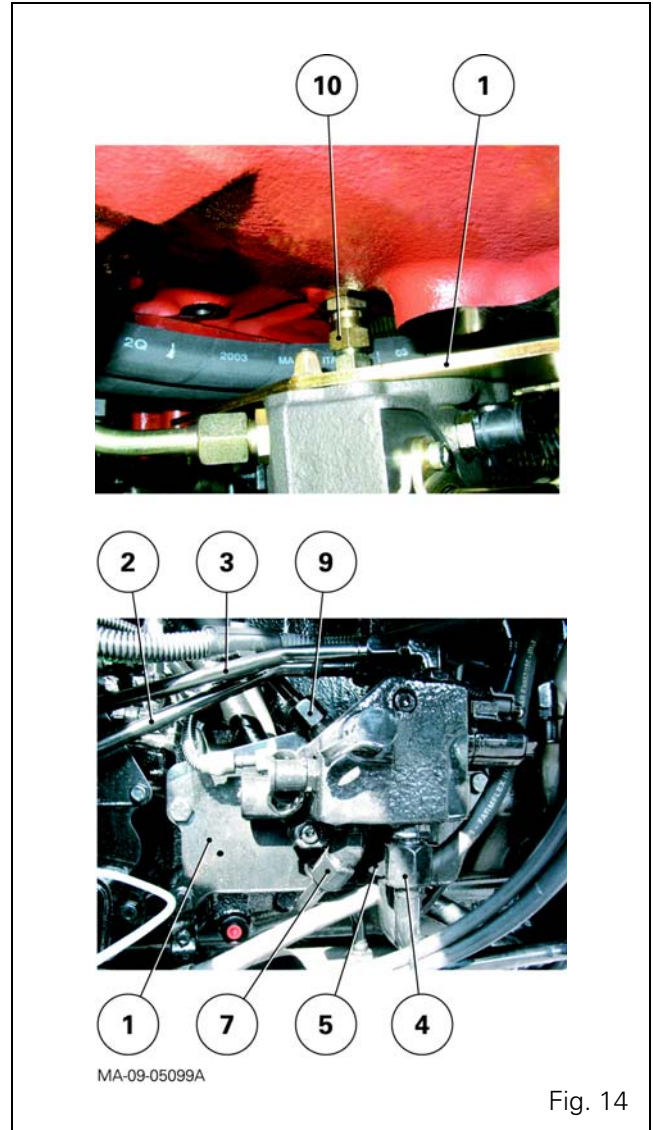

Fig. 14
7. Disconnect and remove pipes (2), (3), (4), (5), (7) and (9) (Fig. 14).
8. Unscrew the support (1) from the gearbox. Remove the "support and unit" assembly by gradually unscrewing the union (10) (Dynashift reverse clutch supply) (Fig. 14).